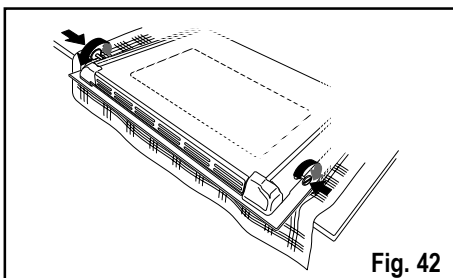

Fig. 42
12. Fix the two screws located on the sides of the oven door (Fig. 42).